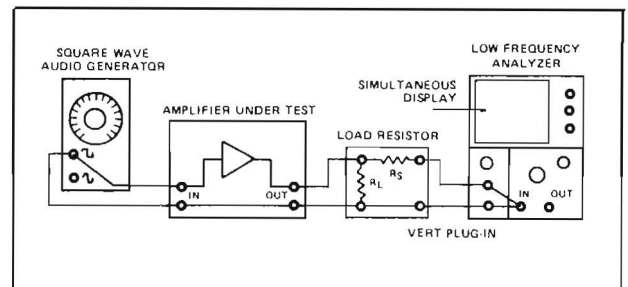

Figure 44 Equipment Setup for Square Wave Response
1. Set up the equipment as shown in Figure 44. The square wave output of the Audio Generator (SG502) is applied to the amplifier. The output of the amplifier is connected through the load-matching combination network and split into both the low frequency spectrum analyzer and an amplifier plug-in unit. Set the amplifier controls for a flat response and the volume control to maximum.